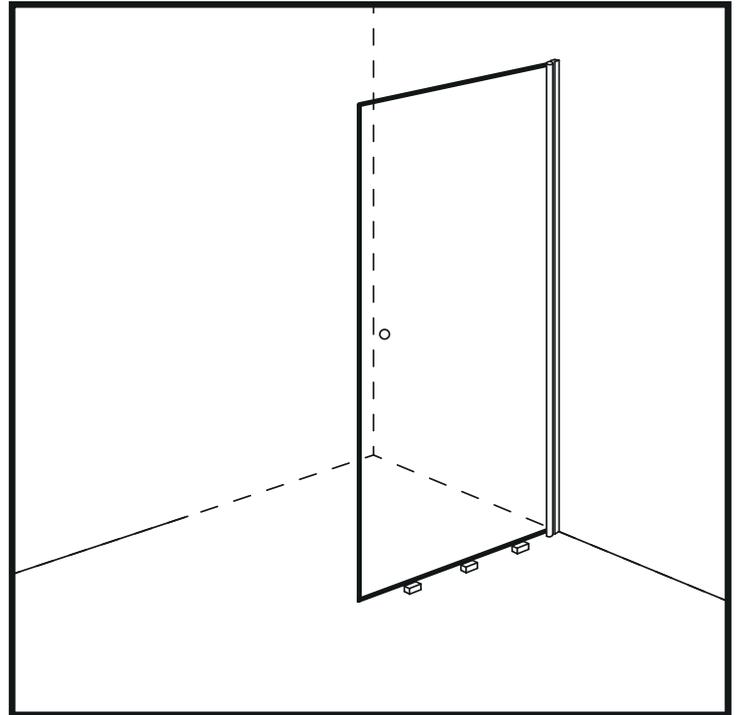

Figure 3
9. Place wooden blocks on the floor (maximum thickness 10 mm) to support the door glass from the package, which already has the manufacturer-installed single hinge attached. (Figure 3)